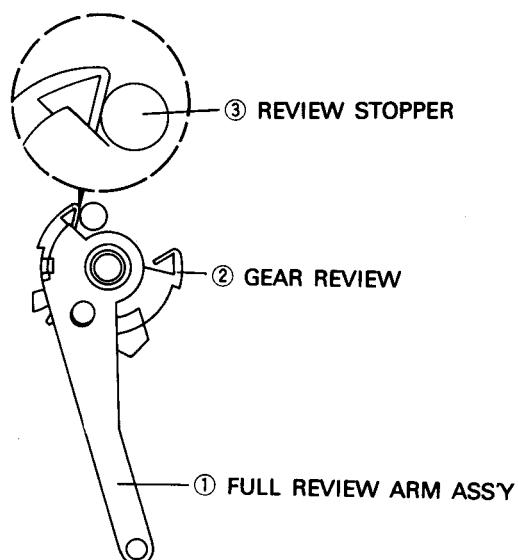

Fig. 48 Reassembly and Timing of Full Review Arm Ass'y
1. Assemble the full review arm ass'y ① so that the gear review ② is touched the review stopper ③ as shown in Fig. 48.